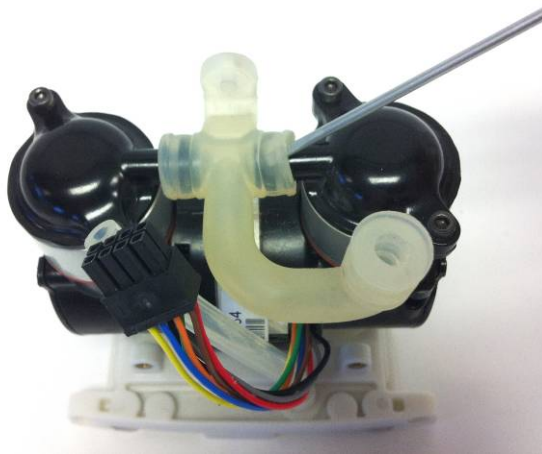

Figure 12: Remove dual feed tube from compressor
7. Remove one end of the dual feed tube off of the compressor at a time (Figure 12) by pushing the tube down between the barbs. *Be careful not to damage the sealing area of the barb during removal.*